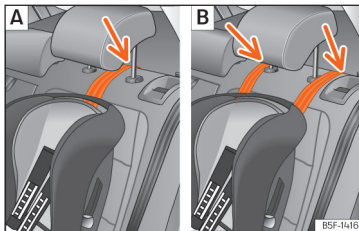
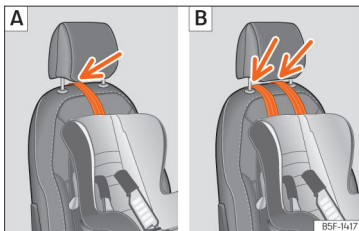

Fig. 47 Rear seats: adjustment and assembly according to the Top Tether belt.
Fig. 48 Passenger seat: adjustment and assembly according to the Top Tether belt.
- Position the belt under the headrest (according to the instructions of the seat itself, lift or remove the headrest if necessary) »» Fig. 47 , »» Fig. 48.